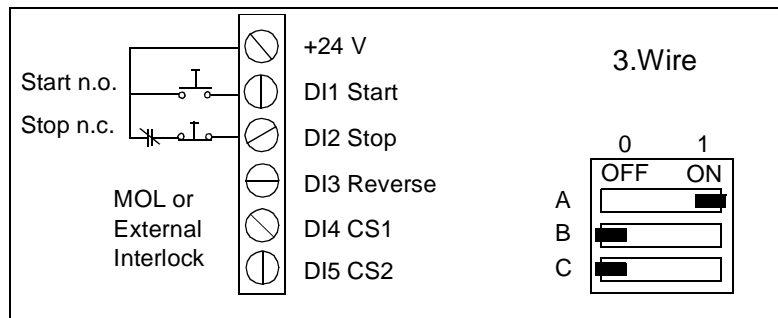

Figure 4-5 3-wire recommended wiring and switch S1 selection.
- 3-wire, refer to page 27, Figure 4-5, Table 4-5 and Table 4-6.
- 3-wire 2, refer to page 29, Figure 4-5, Table 4-7 and Table 4-8.